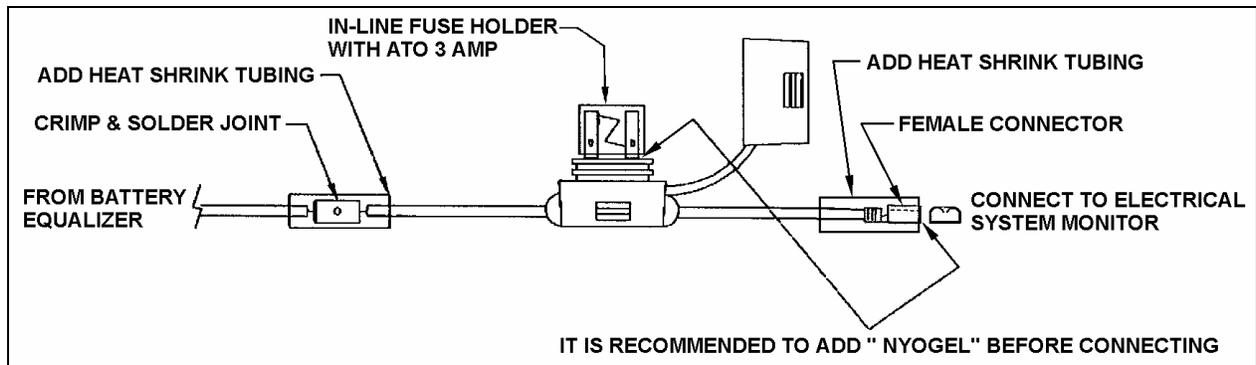

FIGURE 4: FUSE ASSEMBLY CONNECTION
- Insert wires 12BE and 24BE into each butt splice then crimp, solder butt splices then slide each heat shrink tubing over and heat. Connect both fuses female connectors to the electrical system monitor terminals. Connect fuses referring to figure 4.